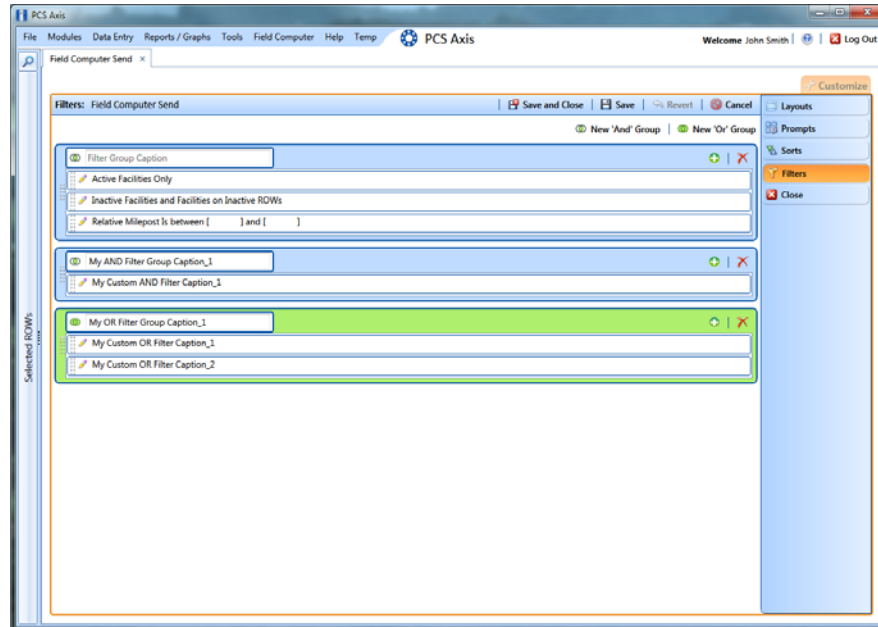

Figure 12-37. Filters
- 4 Click the **Customize** tab  **Customize**, then the **Filters** button  **Filters** to open the *Filters* page (Figure 12-37, page 515).